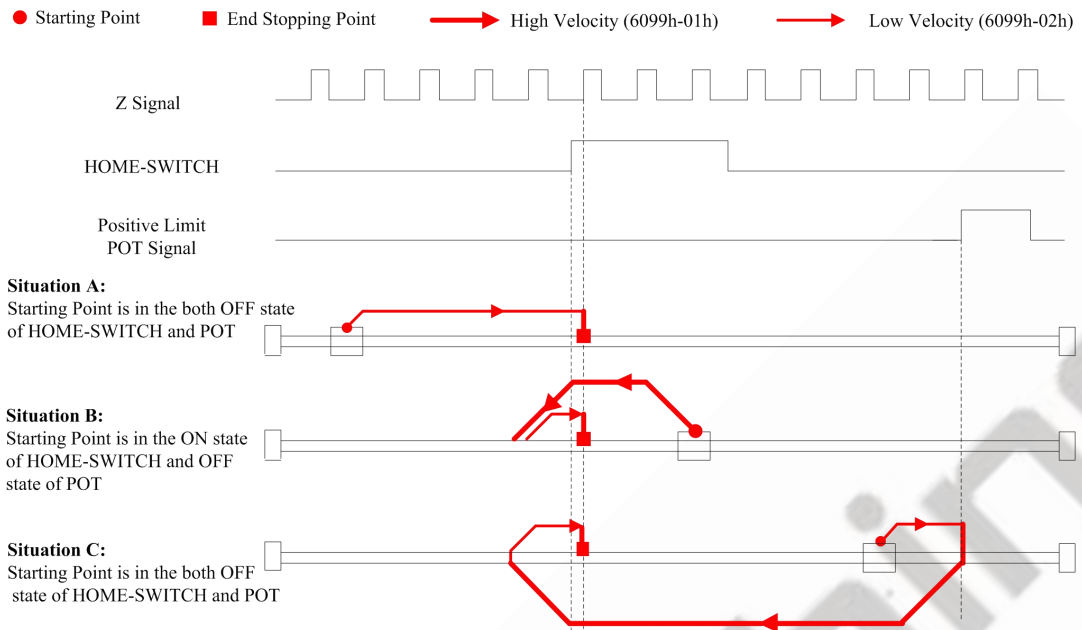

Figure 7-8 Method 8
- If the motor starting point is in the OFF state of HOME-SWITCH and Positive Limit like Situation A, it will move toward positive direction at Low Homing Velocity (6099-02h), it will stop at the first effective Z signal during the ON state of HOME-SWITCH, as shown in Figure 7-8.